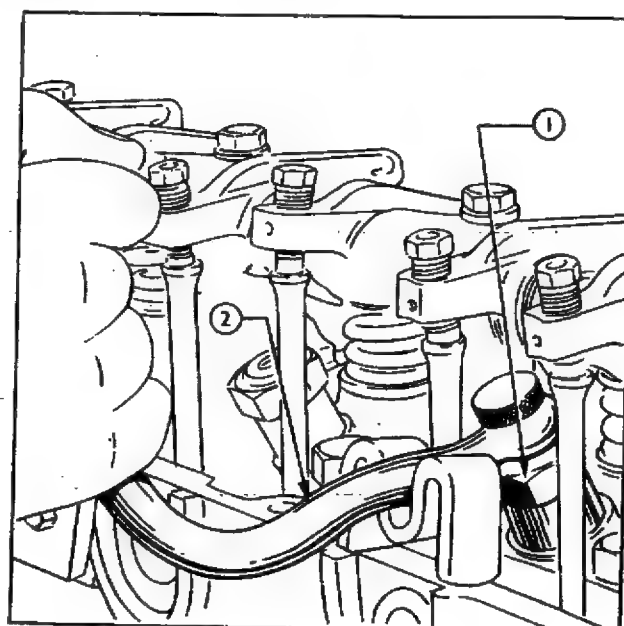

Fig. 38 1 Injector
6. Remove the injector after unscrewing the two securing bolts. If the injector is tight in its housing the injector lifting bar, Part No. E1ADDN-17098, should be used (see Fig. 38).